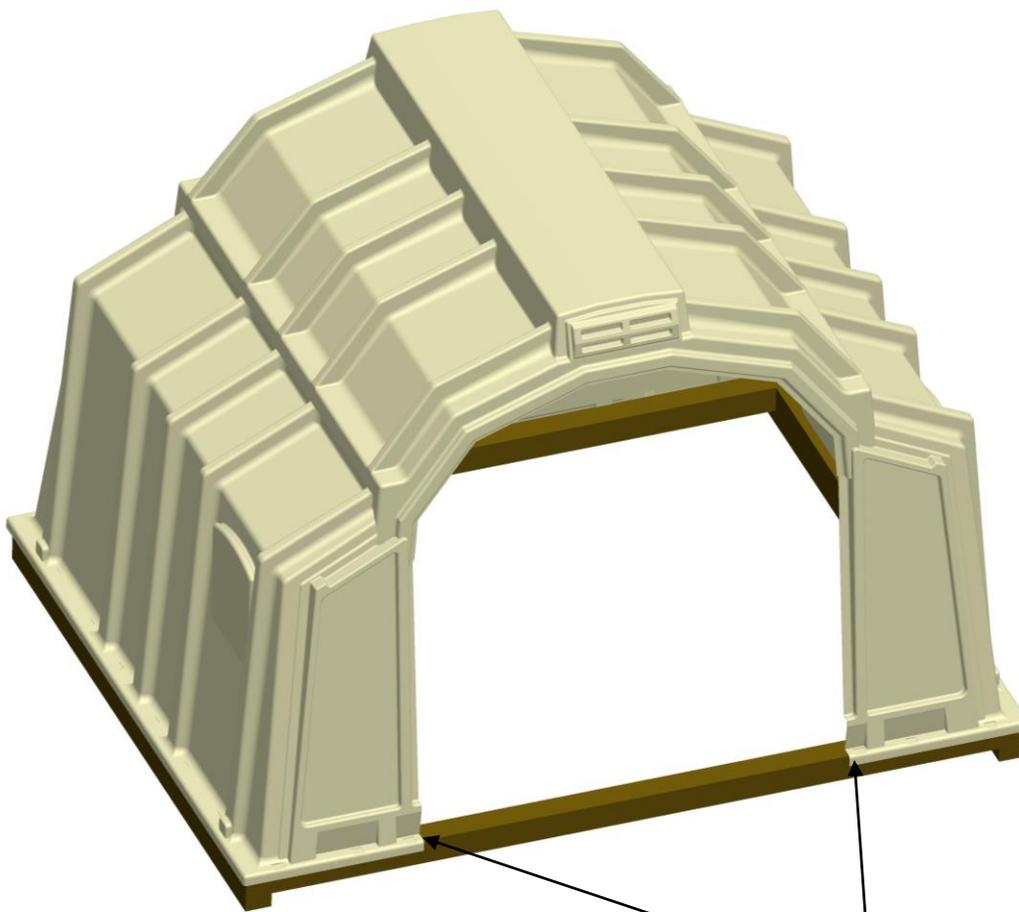

Figure 2
- A. Using 1/2" Deep Well Socket, washers and screws, fasten (2) brackets near entrance securing Hutch to Base (see figure 2)